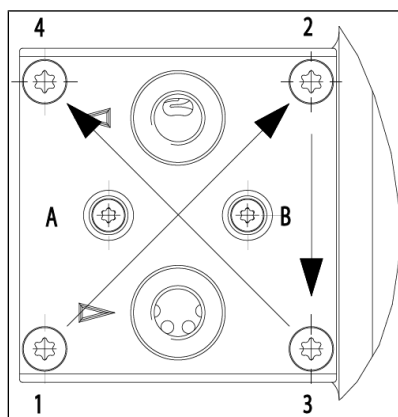

Fig.9 Tighten cap head screws
2. Screw in the screws (5) with disk spring and slightly tighten them crosswise in the order 1-2-3-4 (see Fig. 9) with 1 Nm.
4. Tighten the screws (5) with disk spring crosswise in the order 1-2-3-4 (see Fig. 9). Tightening torque: 2.1 Nm.